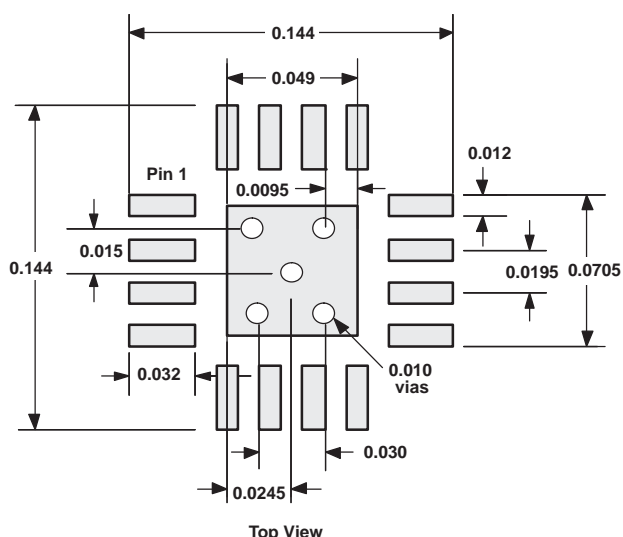

Figure 50. PowerPAD PCB Etch and Via Pattern
1. Prepare the PCB with a top side etch pattern as shown in Figure 50. There should be etch for the leads as well as etch for the thermal pad.